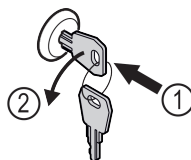

Fig. 176
- ▶ Insert the key. Fig. 176 (1)
- ▶ Turn the key anticlockwise by 90°. Fig. 176 (2)